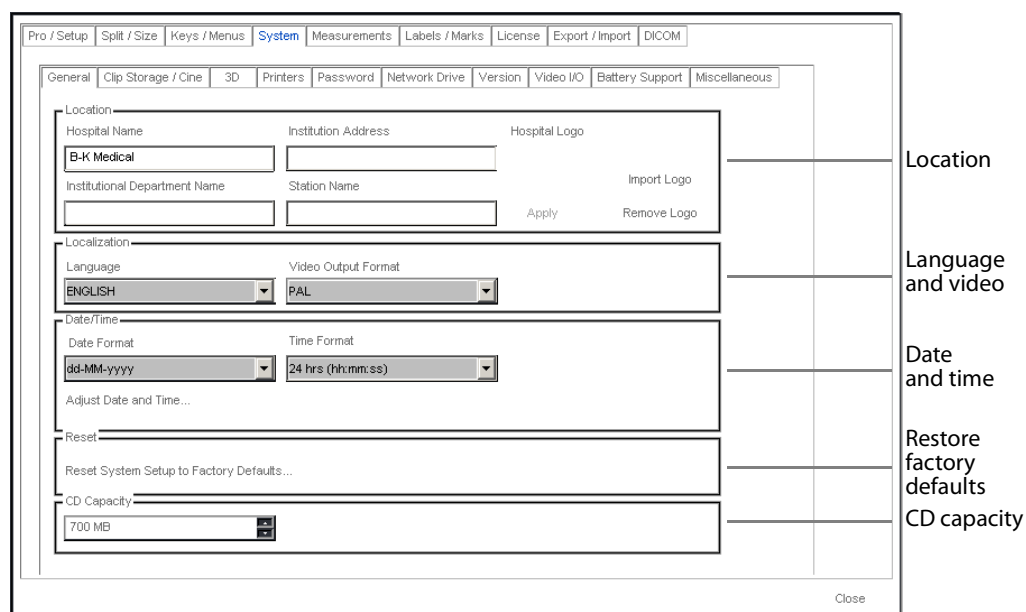

Figure C-4. The General Setup window.
Warnings on the monitor can be displayed in different languages. Set the preferred language in the **General Setup** window (see Fig C-4).
- Click **Date/Time** in the **General Setup** window (Fig C-4).
- Select the date or time format in the **General Setup** window (Fig C-4).
To restore all factory default settings on the system, click **Reset System Setup to Factory Defaults...** See Fig C-4.